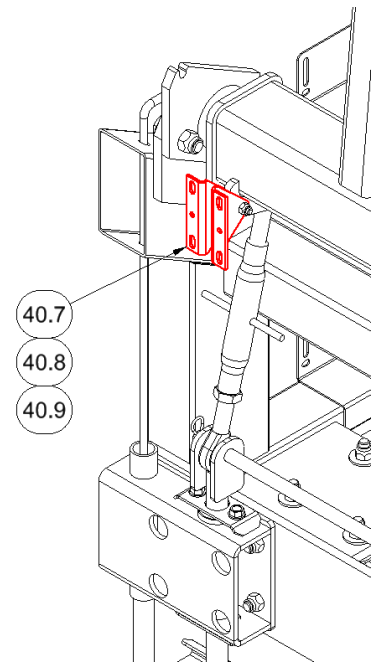

Figure 24
3. Attach the Front Lower Pad, item 40.2, to the anchor on the Front Upright, bolting the Pad Hinge Bracket, item 40.7, using 5/16-18 Hex Bolt and Locknut as shown in figure 24. Locknut should be snug, but be loose enough to allow brackets to pivot freely.